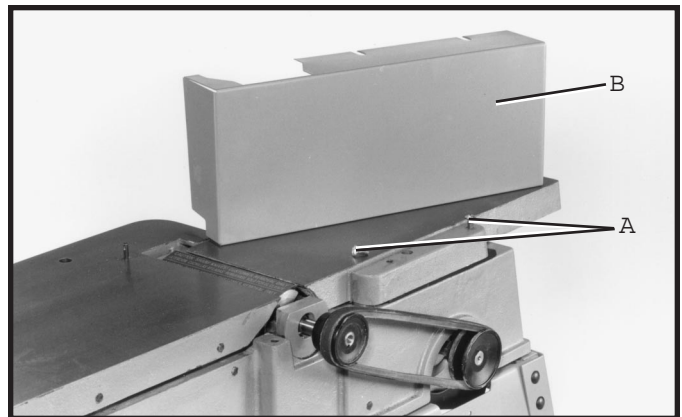

Fig. 10
1. Loosely thread two 1-1/4-20 x 1/2 truss head screws (A) Fig. 10, into the two tapped holes at the rear of the jointer table.